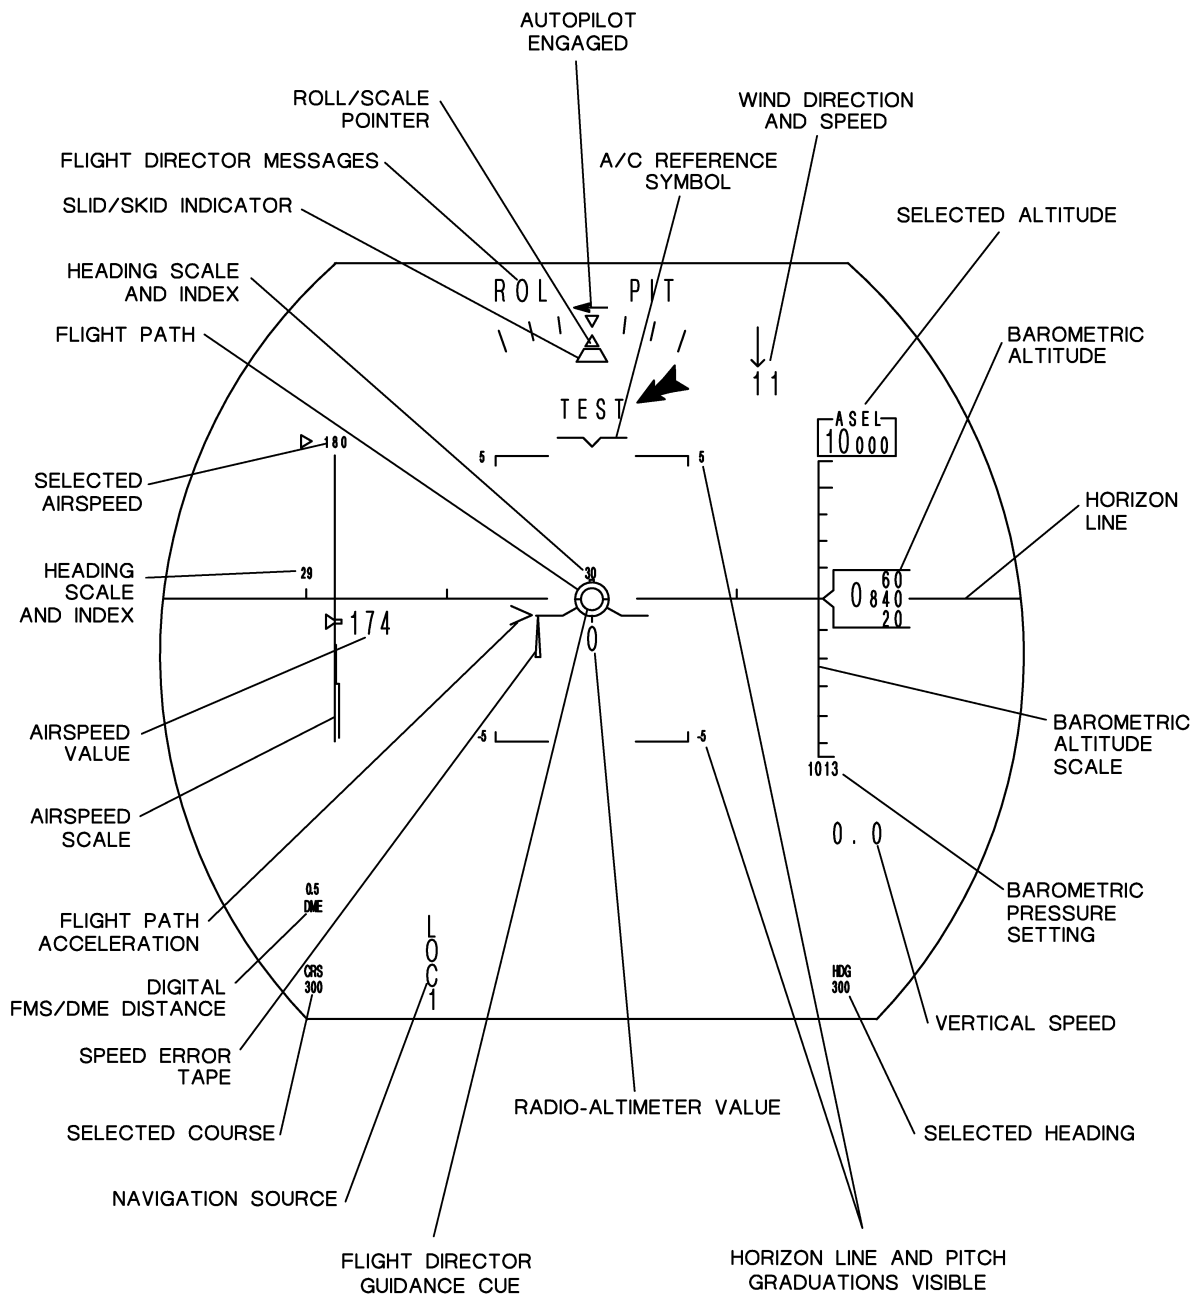

Figure 3: Example of HGS Test Display
- (3) Press the "ENTER" pushbutton on the HCP keypad.
- (4) Check that the word "TEST" is displayed above the aircraft model on the combiner (**fig. 3**).